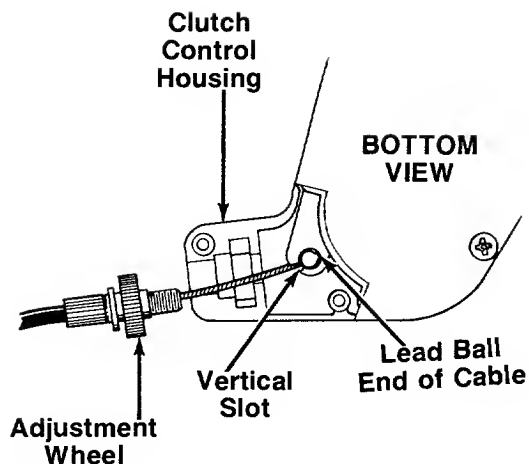

FIGURE 7.
1. Place the lead ball end of the cable into the fitting provided in the end of the clutch control lever. Slip the braided wire into the vertical slot as shown in figure 7.